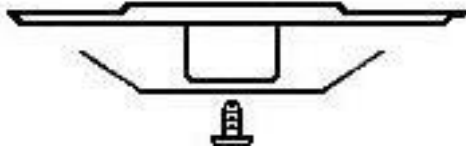

Figure 1
5. Fasten the baffle plates to the underside of each valve cover, as shown in the illustration below, using the supplied 8-32 x 5/16" self-tapping screws. Add thread locking compound to each screw. Make sure the plate is not able to move when the screws are tightened down. See **Figure 1**.